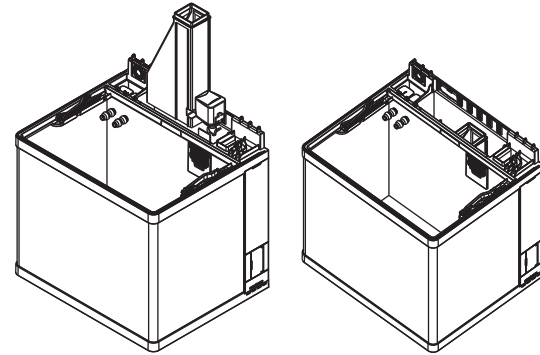

Figure 13: Inserting the protein skimmer
6. Holding the pump air hose and power cord up out of the tank, carefully slide the skimmer assembly into the skimmer chamber, wide end first, lining up the two slots that run the length of the skimmer body with the glass ribs on the front and back wall of the filtration chamber. Make sure that there is no pressure being put on air line. (Fig.13)